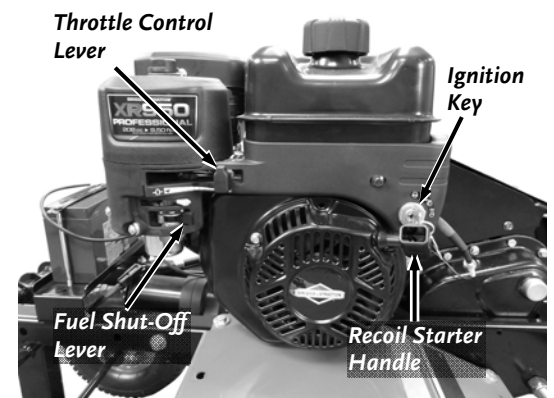

Figure 12
6. Move the Fuel Shut-Off Lever left to the ON position (**Figure 12**).
2. When starting a cold Engine, push the Choke Control Lever to the left so it is in the CHOKE  position and the push the Throttle Control Lever to the left so it is in the RUN  position (**Figure 12**).